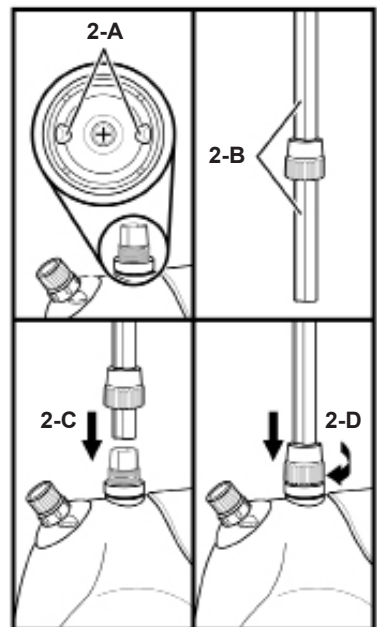

FIGURE 2
2. Look down inside Pole Base, and locate two guide ridges (FIGURE 2-A). Align two guide grooves on Telescopic Pole (FIGURE 2-B) with guide ridges inside Pole Base.
3. With guide grooves aligned with guide ridges, insert SECTION 4 of Telescopic Pole into Pole Base (FIGURE 2-C).
4. Slide COUPLING down over Pole Base, then screw clockwise to lock Telescopic Pole in place (FIGURE 2-D). Telescopic Pole should now be secured to the Pole Base.